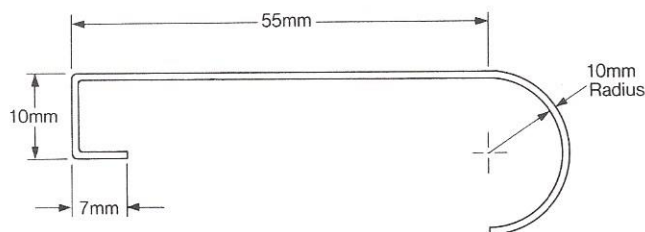

Figure 2 Wire Hook
- 3.3.4 Use a wire hook, formed as shown in Figure 2, to lift the end of the Brush Spring and then pull out the Carbon Brush by its flexible lead.